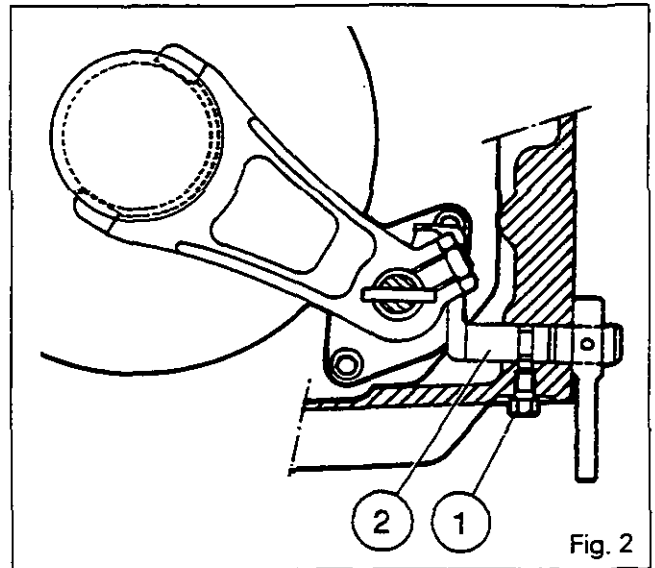

Fig. 2
17. Disconnect the creeper gear control (if fitted) and then remove the bolt (1) and pull the rod (2) towards the outside to release the finger from the fork (Fig. 2).
32. Turn and push the rod (2) in order to engage the finger in the fork. Tighten the bolt (1) after coating it with Loctite 241 (Fig. 2).